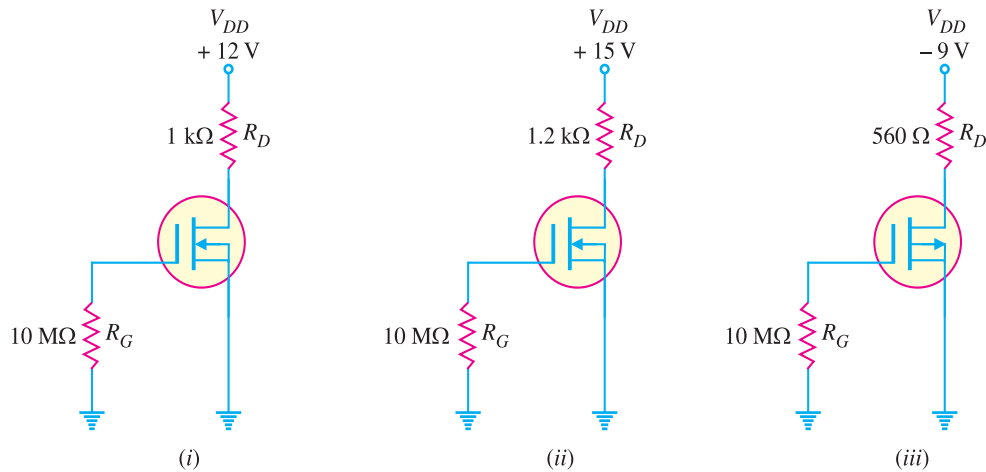

Fig. 19.67
9. Determine V_{DS} for each circuit in Fig. 19.67. Given $I_{DSS} = 8 \text{ mA}$. [(i) 4 V (ii) 5.4 V (iii) -4.52 V]